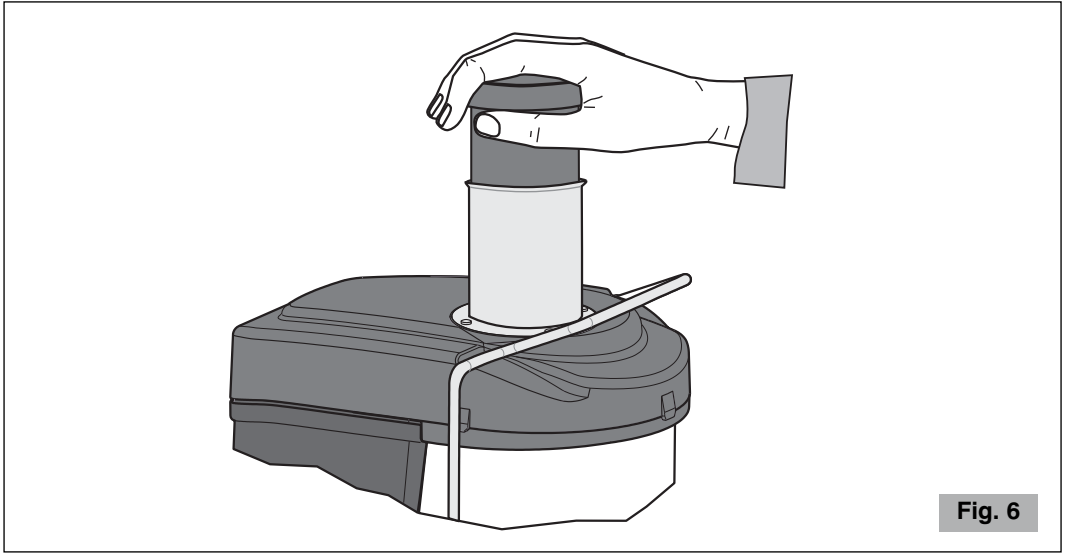

Fig. 6
- 6 Use the food pusher provided, to gradually push down the fruit and/or vegetables towards the spinning grating disc at the bottom of the feed chute (see Fig. 6). To obtain more juice always press the food pusher lightly. Do not insert fruit and/or vegetables when the motor is off.